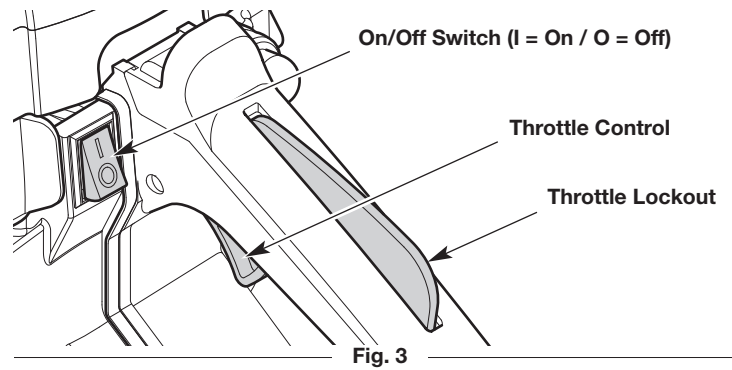

Fig. 3
1. Move the On/Off switch to the **On** position (Fig. 3).
NOTE: DO NOT touch the throttle control (Fig. 3) until step 10.
2. Move the On/Off switch to the **Off (O)** position (Fig. 3). Wait for the engine and saw chain to come to a complete stop.